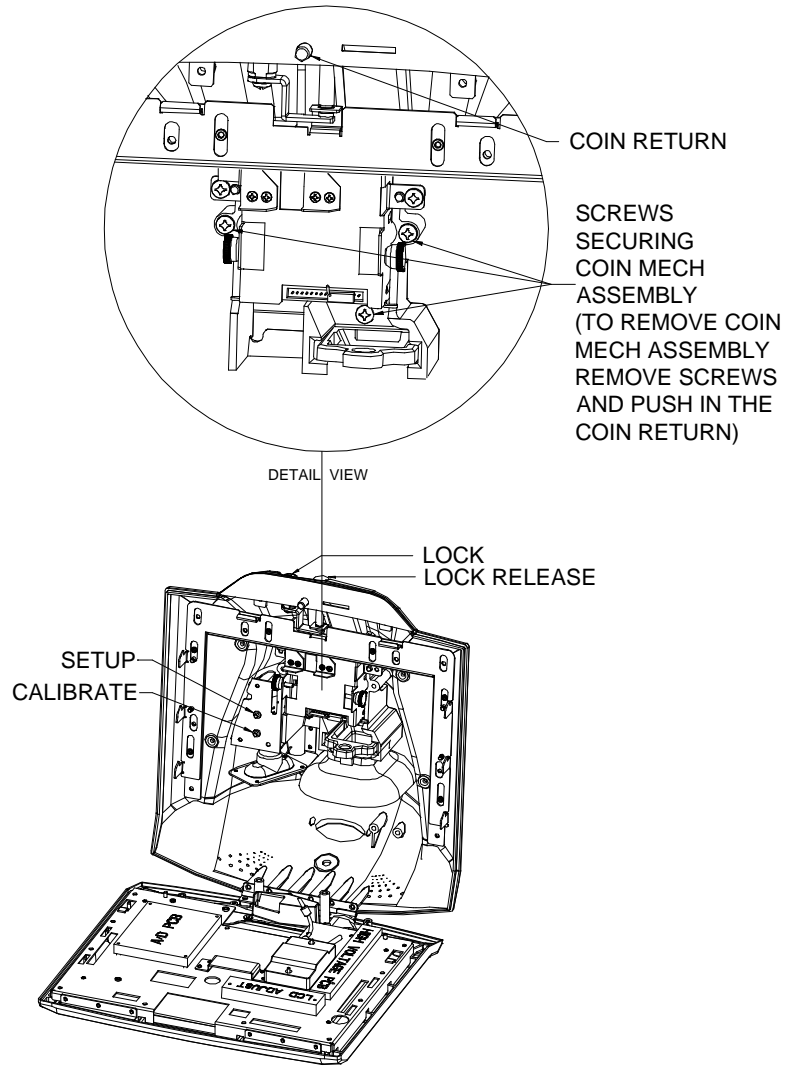

FIGURE 1B - THE VIBE (WITH COIN MECH) TERMINAL IN OPEN POSITION
3. *Vibes with coin only:* Remove the coin mech assembly from the game by removing the three screws securing the coin mech assembly and pushing in the coin return. See Figure 1B.
4. *Vibes with coin only:* Remove the coin mech assembly from the game by removing the three screws securing the coin mech assembly and pushing in the coin return (see Figure 1B).
6. *Vibes with coin only:* Remove the coin mech assembly from the game by removing the three screws securing the coin mech assembly and pushing in the coin return (see Figure 1B).
7. *Vibes with coin only:* Remove the coin mech assembly from the game by removing the three screws securing the coin mech assembly and pushing in the coin return (see Figure 1B).